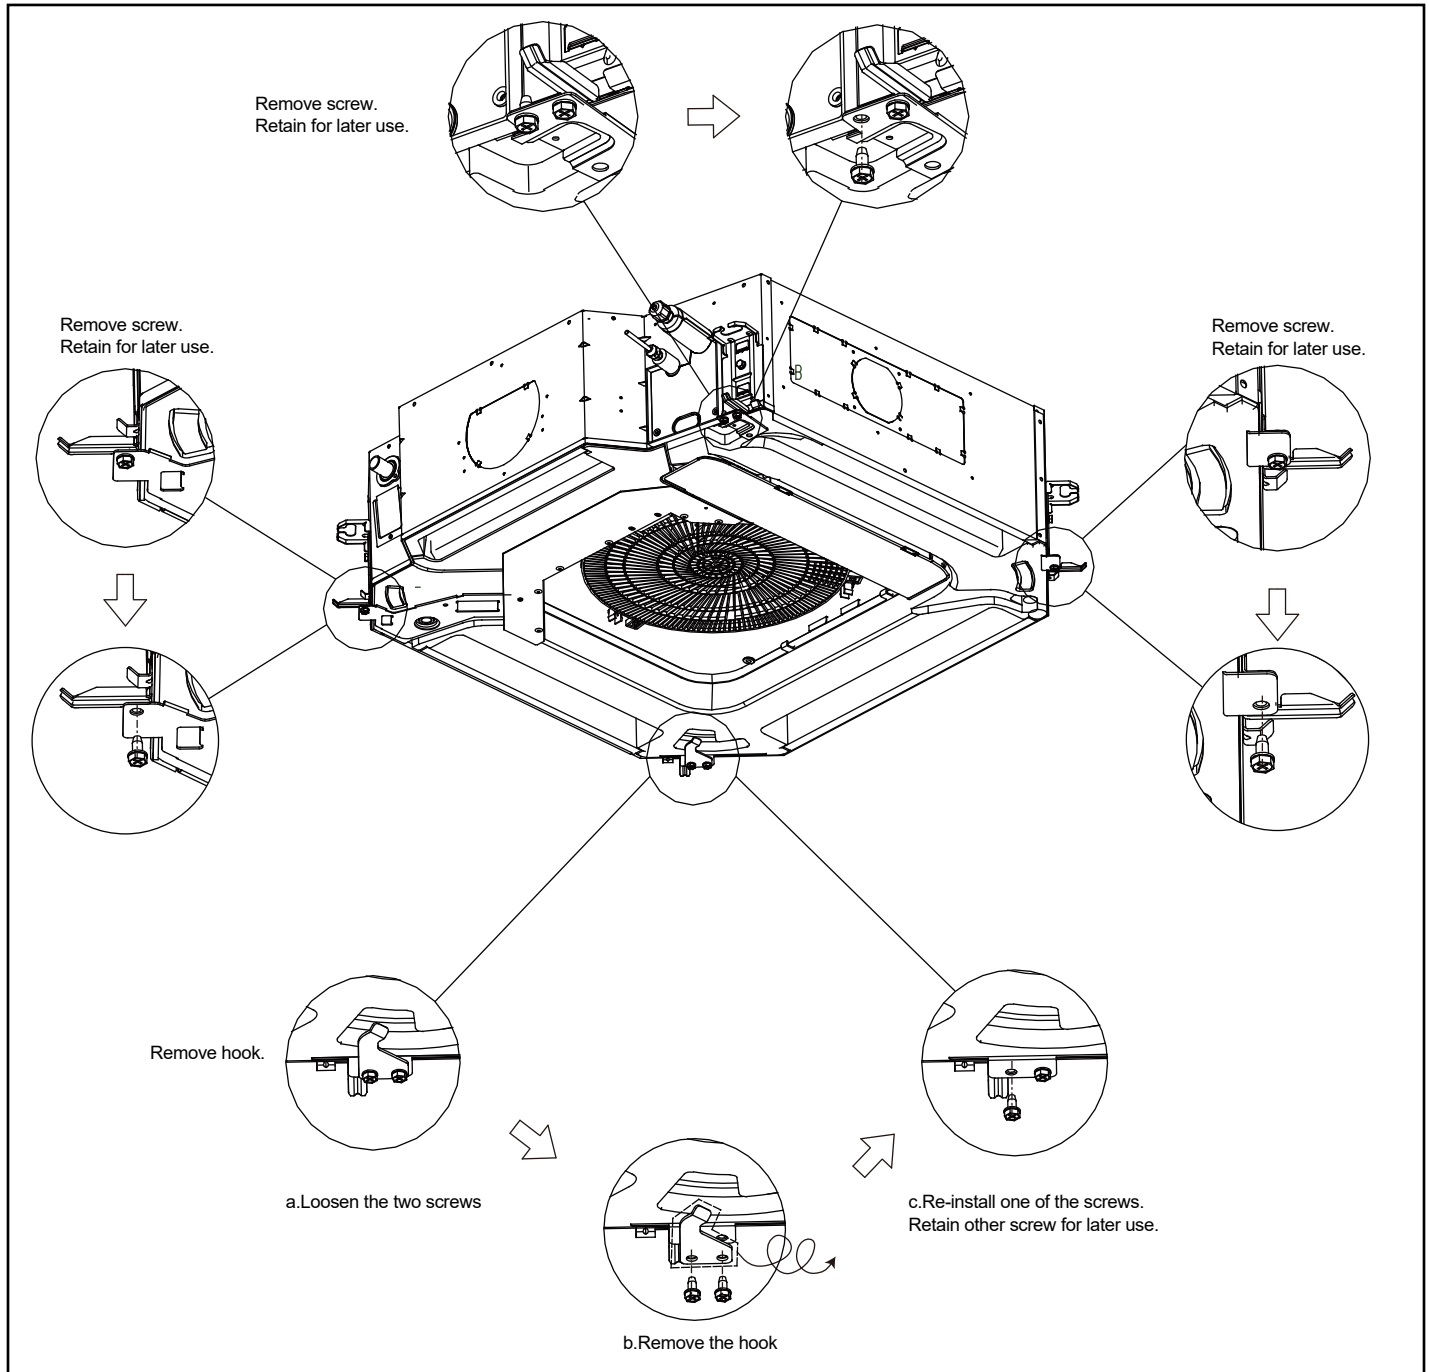

Figure 2. Remove Screws and Hook
1. Remove screws from cassette body as shown in Figure 2. Retain screws for later use.
2. Remove hook from cassette body as shown in Figure 2. Re-install one screw. Retain one screw for later use.